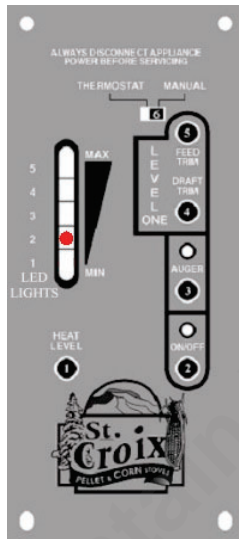

Figure 11
**LED light 2 flashing** - The number 2 LED light on the Heat advance bar will **flash** if the control board senses a loss of vacuum. The stove shuts down and the Number 2 LED light starts flashing **approximately 60 seconds after** a loss of vacuum has been sensed. (Fig 11)